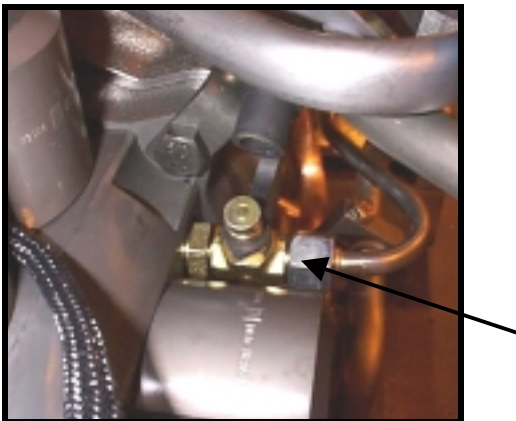
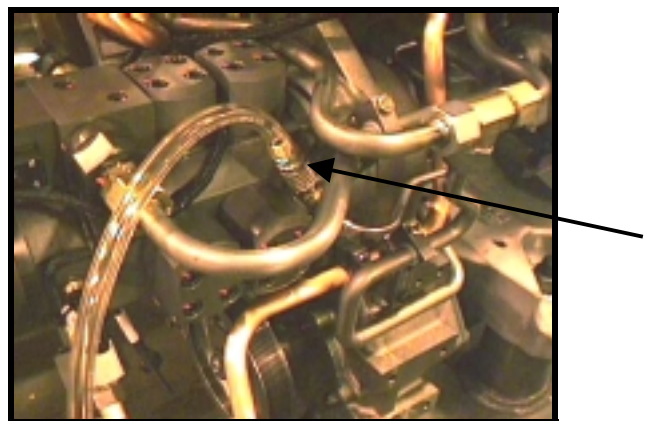
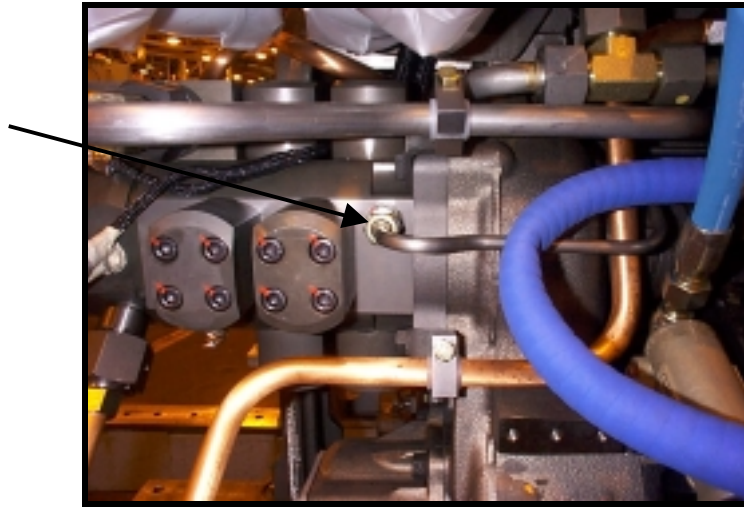

Fig. 107 Fuel System Vent Valve
Fig. 108 Vent Valve with Quick Coupling and Hose Connected
Fig. 109 High-pressure Pump Fuel Return Line Fitting
3. **Connect a hose with quick disconnect coupling P/N PD 243 to the vent valve located on the body of the high-pressure fuel pump. (See Fig.107 and Fig.108) Place the open end of the hose in a container to catch fuel discharge. On older units, loosen the fitting of the return fuel line on the high-pressure fuel pump to allow air to bleed out of the pump crankcase. (See Fig.109) When fuel flows without air bubbles present, disconnect the quick coupling or tighten the return line fitting.**